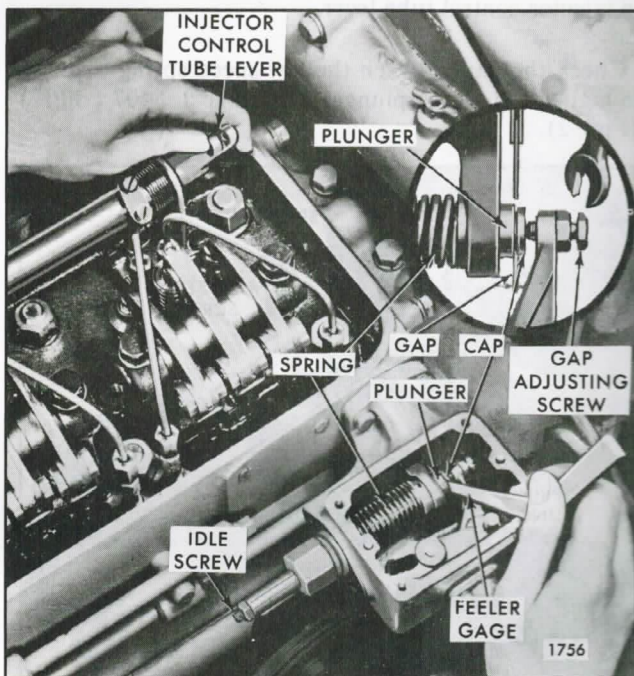

Fig. 3 - Adjusting Gap (Double-Weight Governor) using Tool J 3172
Adjust Governor Gap (Fig. 3) (Double-Weight Governor)
(Fig. 3). The gap should be .002"-.004". If the gap setting is incorrect, reset the gap adjusting screw.
2. Turn the idle speed adjusting screw until 1/2" of the threads (12-14 threads) project from the locknut when the nut is against the high-speed plunger (Fig. 3). This adjustment lowers the tension of the low-speed spring so it can be easily compressed. This permits closing the low-speed gap without bending the fuel rods or causing the *yield mechanism springs to yield or stretch*.